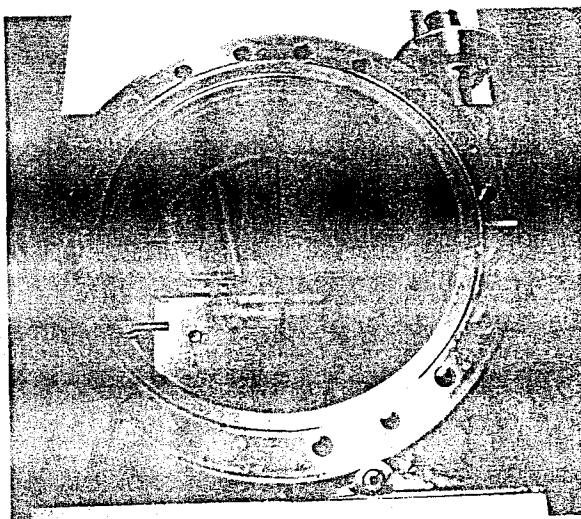

Fig. 4-1 - Inside view of a VacIon Plus pump
- 2) Remove the element holding brackets (see Fig. 4-1).